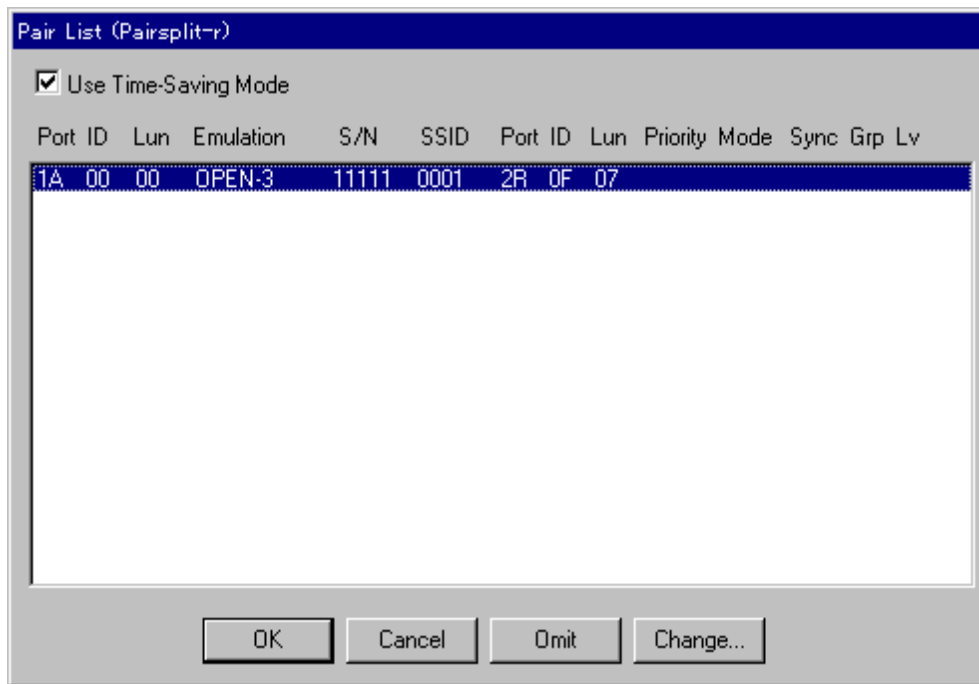
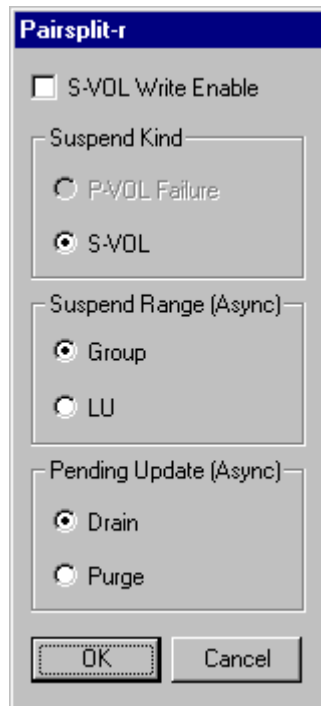

Figure 5.6 Pair List (Pairsplit-r) Panel
Figure 5.7 Pairsplit-R Option Panel
The Pair List (Pairsplit-r) panel (see Figure 5.6) allows you to split HORC pairs and also provides access to the Pairsplit-R Option panel (see Figure 5.7). You can split a HORC pair only after the initial copy operation is complete. The Pair List (Pairsplit-r) panel is accessed from the HORC Main Control panel (**Pairsplit-R...** button). For further information on split HORC pairs, see section 2.5.1.
4. To change the pairsplit options for one or more pairs, select the pair(s) and then select **Change...** to open the Pairsplit-R Option panel (refer to Figure 5.7). On the Pairsplit-R Option panel, select the desired options for the pair(s), and then select **OK** to return to the Pair List (Pairsplit-r) panel. Repeat this step as needed until the pairsplit options for each pair are correct. The suspend kind option (**P-VOL failure** or **S-VOL**) and fence level pair option determine whether the P-VOL will accept write I/O operations after the pair is split.